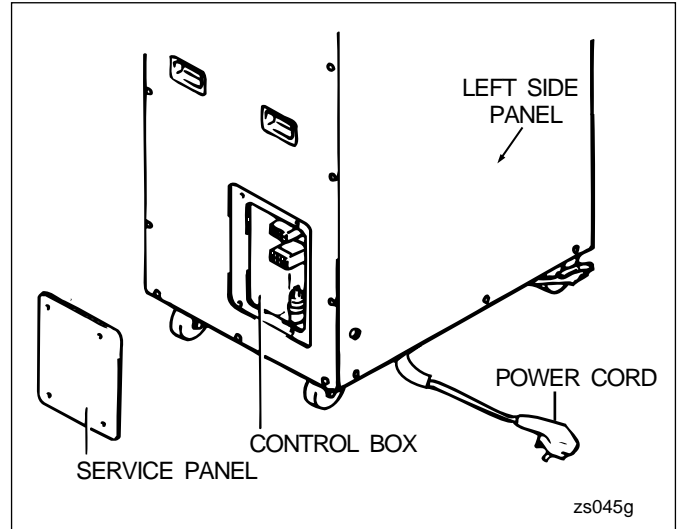

Fig.39 Removal of Power Wire
- 5) Left side panel (refer to Fig.39)
- 6) Service panel (refer to Fig.39)